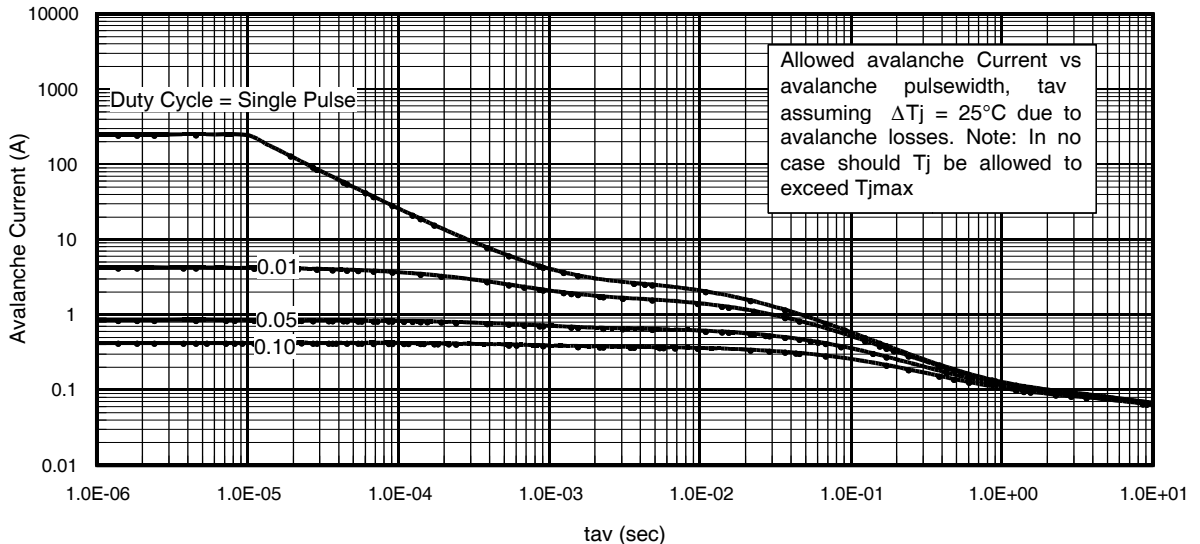

Fig 12. Typical Avalanche Current vs. Pulsewidth
**Notes on Repetitive Avalanche Curves , Figures 12, 13:
7. ΔT = Allowable rise in junction temperature, not to exceed T_{jmax} (assumed as 25°C in Figure 12, 13).